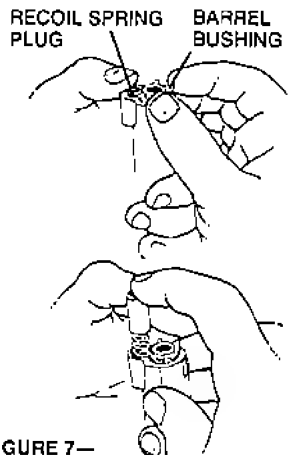

FIGURE 7—
6. (A) With muzzle pointing upward, press down on recoil spring plug (located just below muzzle) and at same time rotate barrel bushing clockwise about $\frac{1}{4}$ turn; this will free plug and recoil spring. Keep pressure on plug to prevent it being ejected violently by the spring, then allow plug and spring to gradually extend out of the slide. (See Figure 7)
7. (A) Turn barrel bushing counterclockwise, then remove bushing from slide.